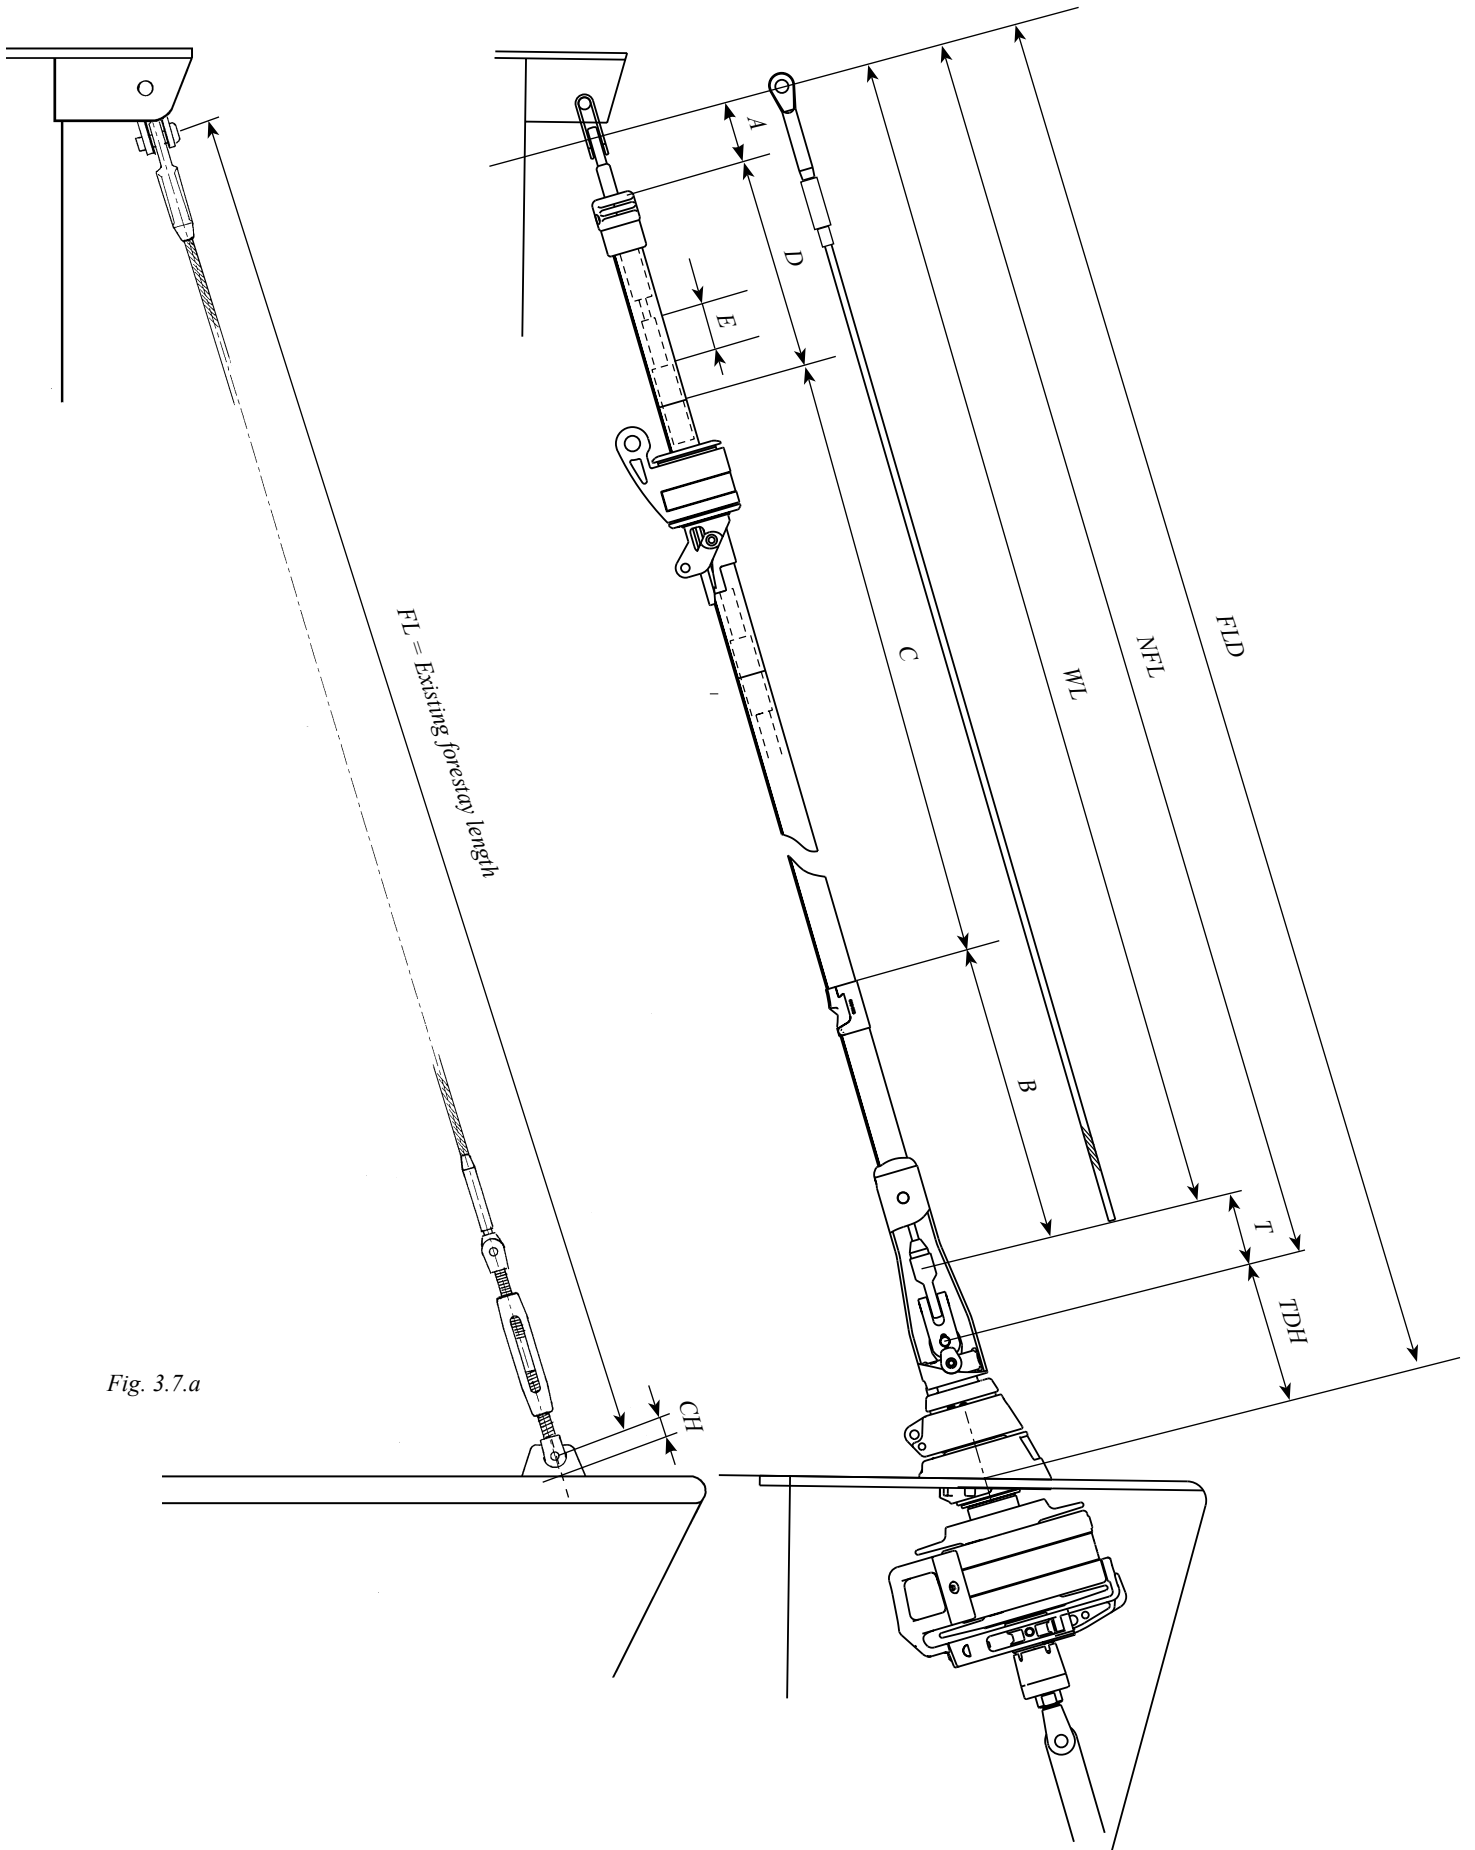

Fig. 3.7.a
<ol style="list-style-type: none"> <li>1. Establish the forestay angle (FA). Use an accurate drawing, which shows details of the area of the deck where the Furlex will be attached, to be able to determine the precise forestay angle (see fig 3.5.c).</li> <li>2. Transfer this angle to a cardboard jig.</li> <li>3. Press the jig against the underside of the deck and move it longitudinally until the edge representing the forestay line intersects the hole in the forestay fitting in the anchor well. Mark the intersection point on the underside of the deck and drill a 6.5 (1/4") mm hole through the deck.</li> </ol> <p data-bbox="252 922 360 954">Fig. 3.5.c</p> 	<ol style="list-style-type: none"> <li>1. Make a jig which represents the forestay angle (FA) above deck (See fig 3.5c)</li> <li>2. Using this jig, mark the angle CSA between the forestay fitting in the anchor well and the deck fitting intersection point</li> <li>3. If these angles are equal, the existing forestay fitting is correctly located.  If the angles are not equal, the forestay angle FA must be used also below deck to decide the intersection point.  Press the jig against the underside of the deck and move it longitudinally until the edge representing the forestay line intersects the hole in the forestay fitting in the anchor well. Mark the intersection point in the fore-and-aft direction accurately.</li> <li>4. Remove the forestay. The recommended procedure is to first slacken the backstay. Then pull the masthead forward using the genoa halyard. Secure the halyard using a "D" shackle or tie to a strong deck fitting. For safety reasons do not use the halyard snap shackle.  NOTE. If the forestay is to be used to decide the forestay length FLD (see fig. 3.7.a), the setting of any rigging screw must not be changed</li> <li>5. Measure the height CH (see fig 3.7.a) on the forestay fitting and enter the figure in table 3.6.1.</li> <li>6. Remove the forestay fitting from the deck.</li> <li>7. Mark the intersection point on the underside of the deck by drawing a line along the longitudinal centreline of the boat and using earlier marking as per item 3.</li> <li>8. Drill a 6.5 mm hole at the intersection point.</li> </ol>
5. Measure the forestay length (FL) with just enough tension to keep it straight.
7. Calculate the new wire length WL in Table 1. Refer to the column marked "example" and fig. 3.7.a to see how this is done.